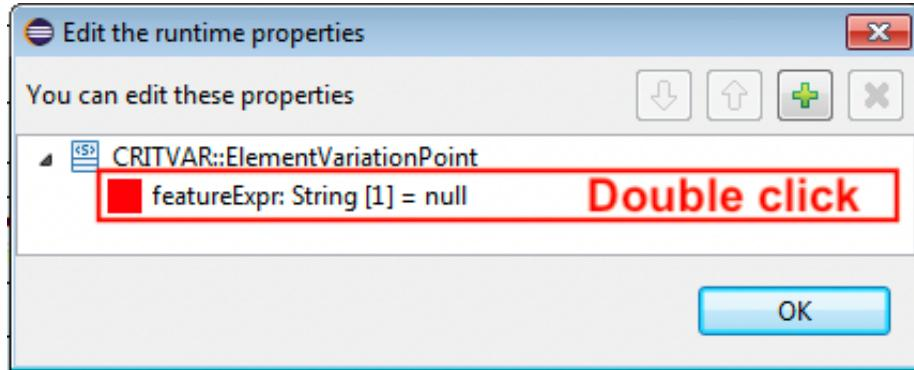

Figure 22: Window 1
v. Select 'OK' on Window 1 (Figure 22);